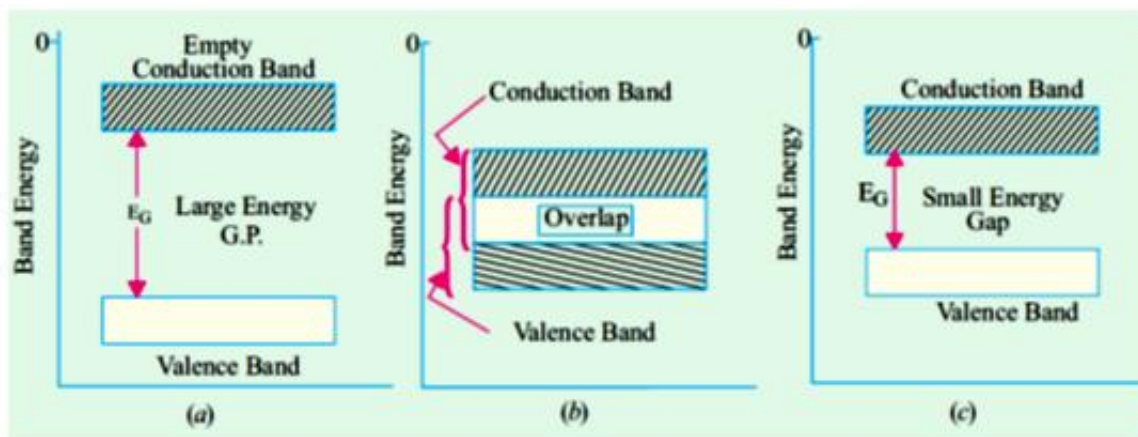

Figure 1.3: Energy bands.
➤ Insulators. Figure 1.3-a
- Insulators (Figure 1.3 - a) have a full valence band, have an empty conduction band, have a large energy gap (of several eV) between them and at ordinary temperatures.
➤ Conductors. Figure 1.3-b
➤ **Semiconductors. Figure 1.3-c**